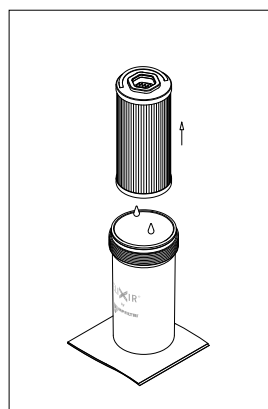

fig. 14
- (Fig. 14) Pull the filter element out